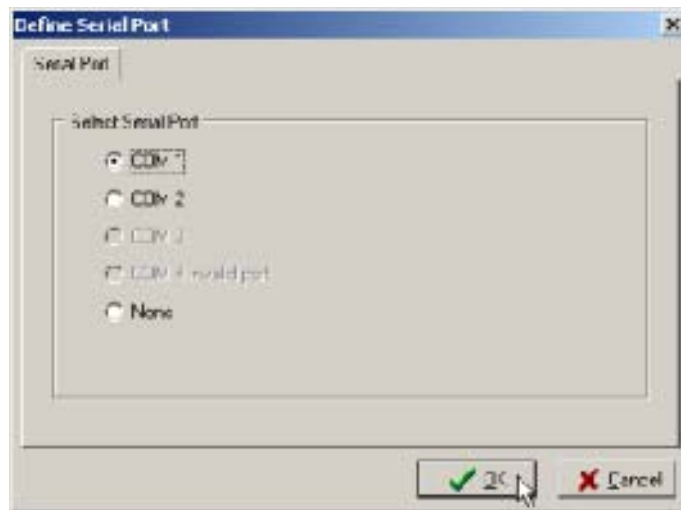

Figure 2-35
5. The **Define Serial Port** window opens. **Figure 2-35**